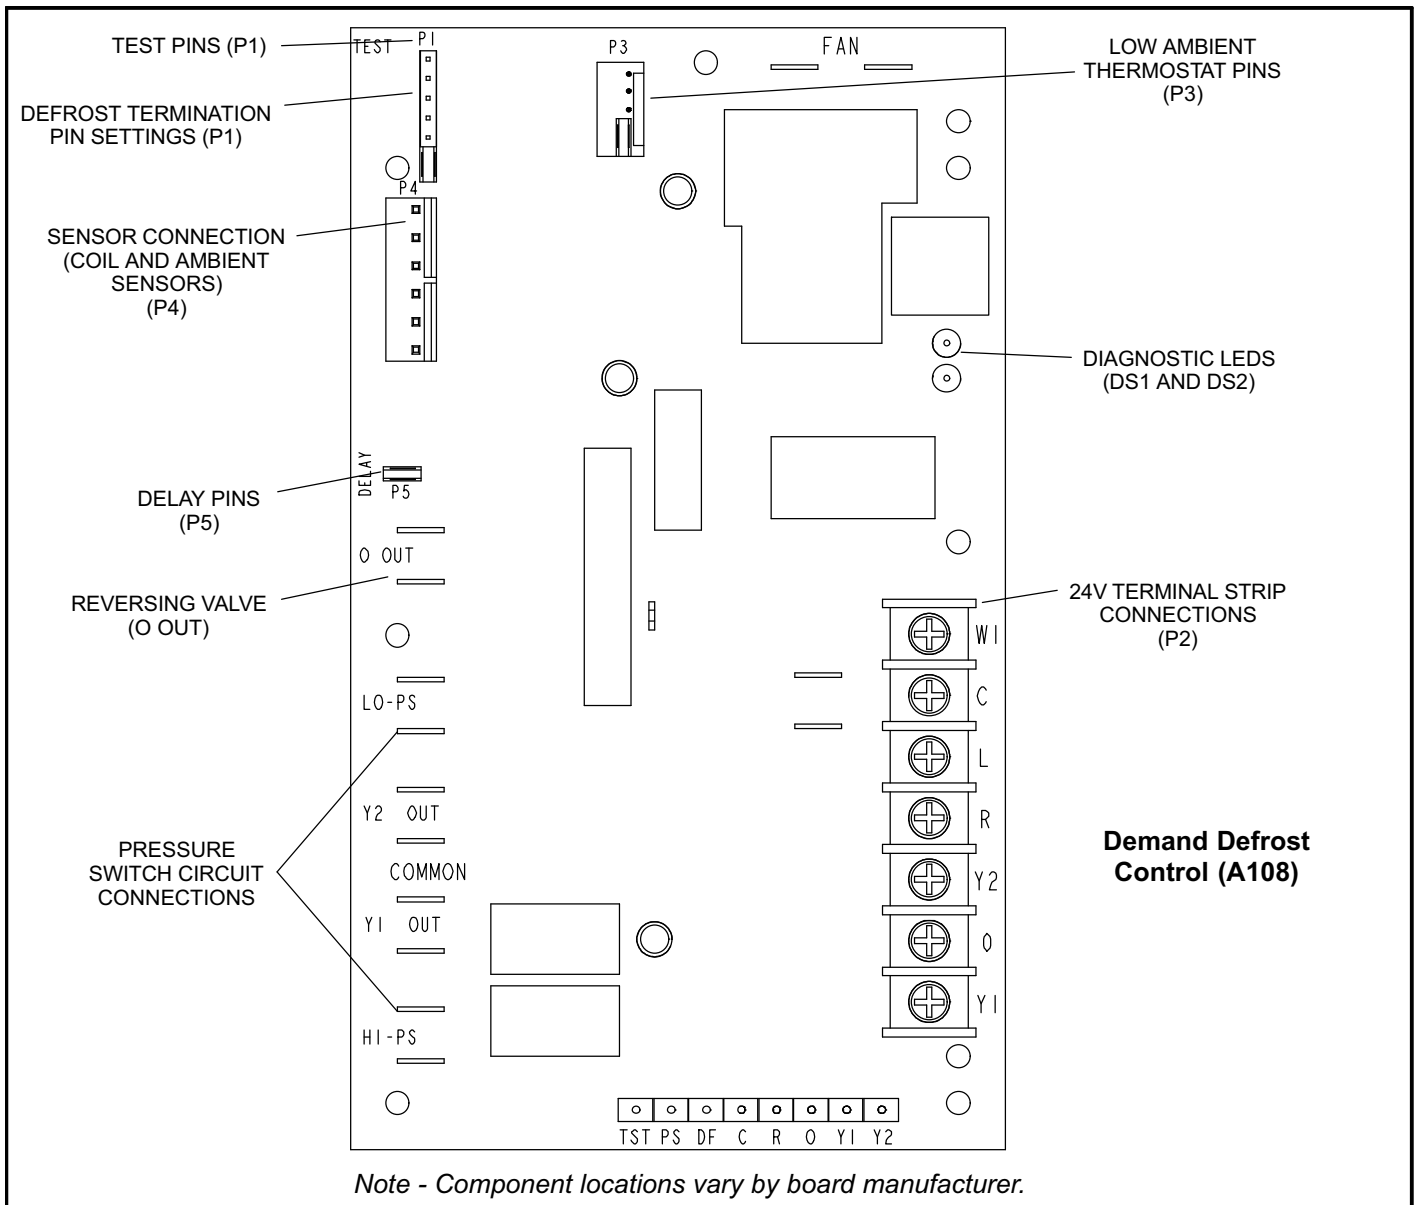

FIGURE 17
atures to detect when the system is performing poorly because of ice build-up on the outdoor coil. The control *self-calibrates* when the defrost system starts and after each system defrost cycle. The demand defrost control components are shown in figure 17.
- Demand defrost control connections, jumpers and LED locations are shown in figure 17.
| P1 | 50, 70, 90, 100 | Defrost Temperature Termination Shunt (Jumper) Pins | The demand defrost control (illustrated in figure 17) has selections which are: 50, 70, 90, and 100°F (10, 21, 32 and 38°C). The shunt termination pin is factory-set at 50°F (10°C). If the temperature shunt is not installed, the default termination temperature is 90°F (32°C). |